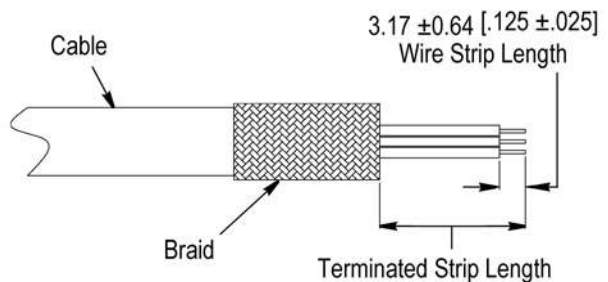

Figure 3
2. Prepare the cable as shown in Figure 3.